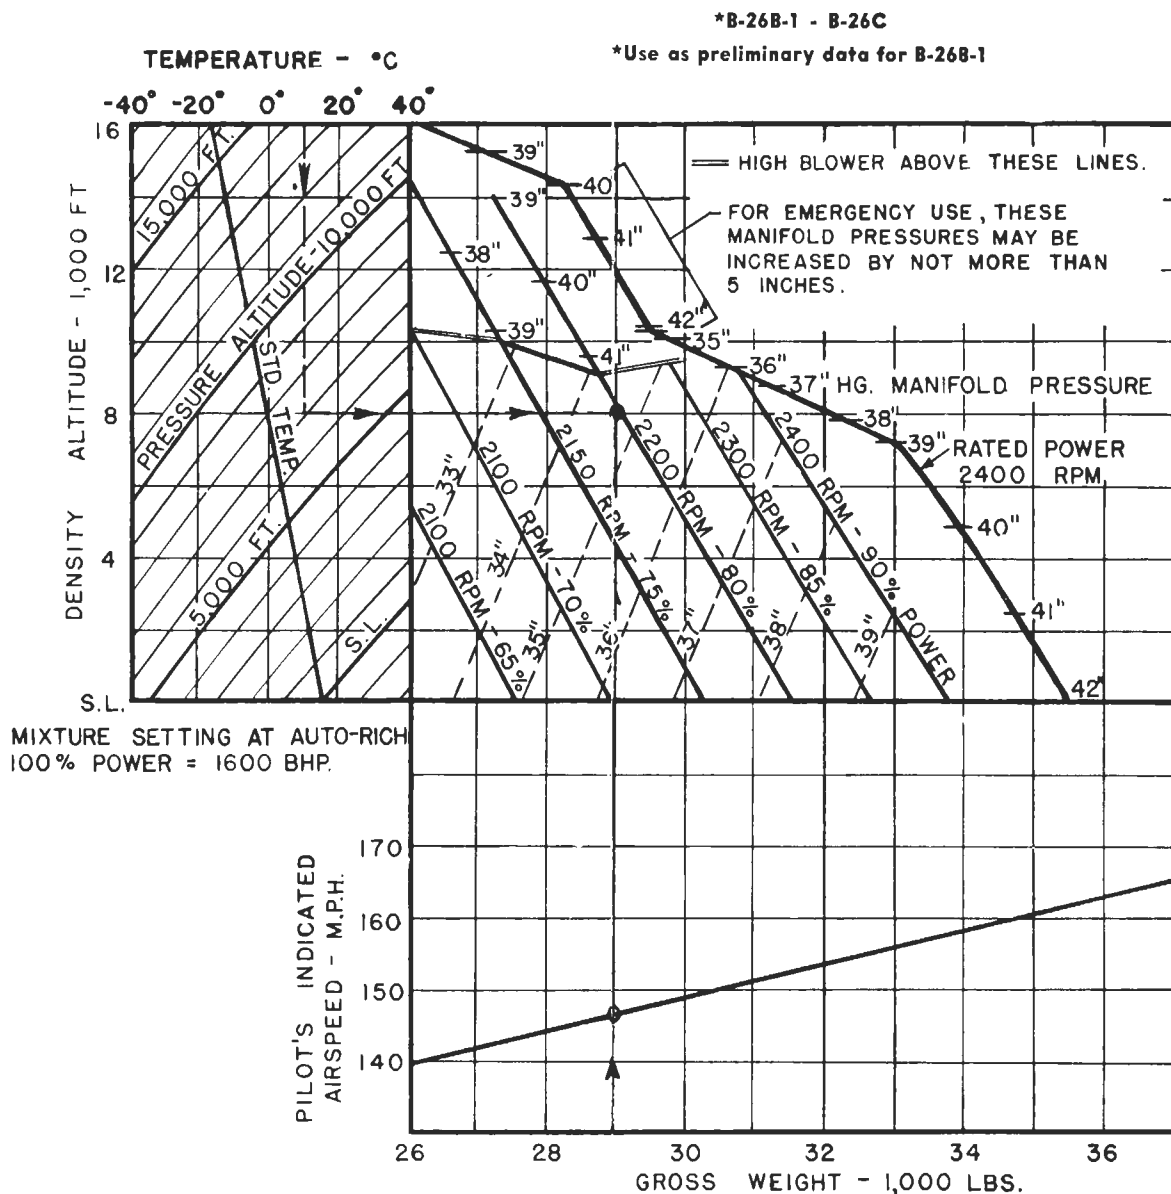

Figure 92 — Single-Engine Control Charts
**6. SINGLE ENGINE CONTROL. (See figure 92.)**
(1) From figure 92.
(2) From figure 92.